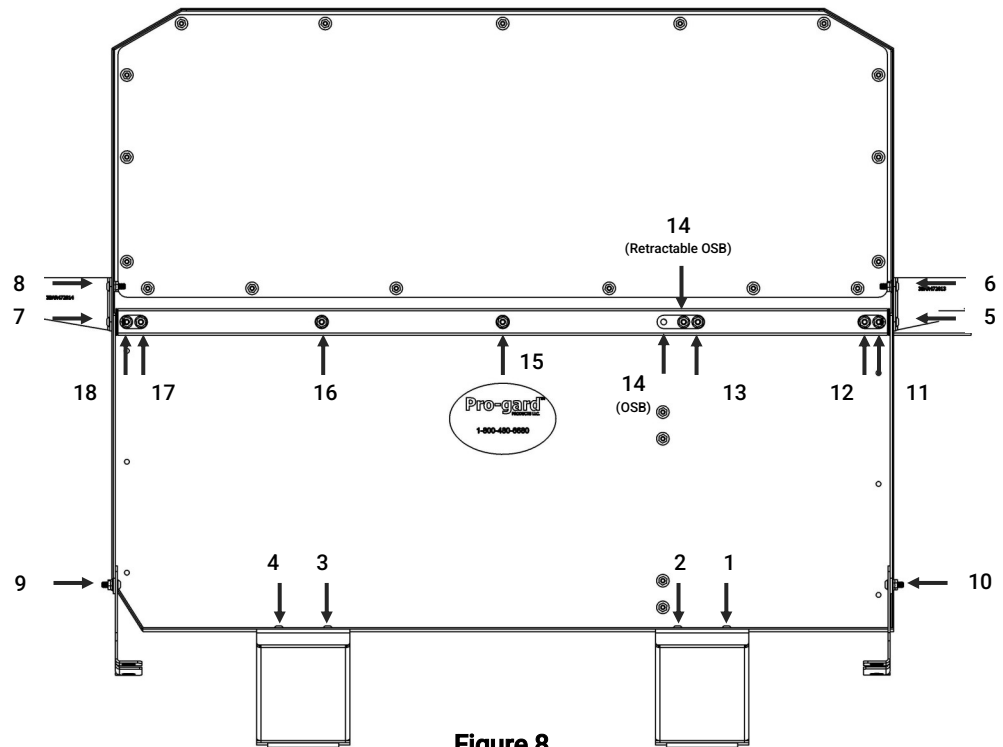

Figure 8
- Tighten all the 5/16" fasteners installed thus far in the order indicated in Figure 8 using a 3/16" hex wrench and a 1/2" socket.